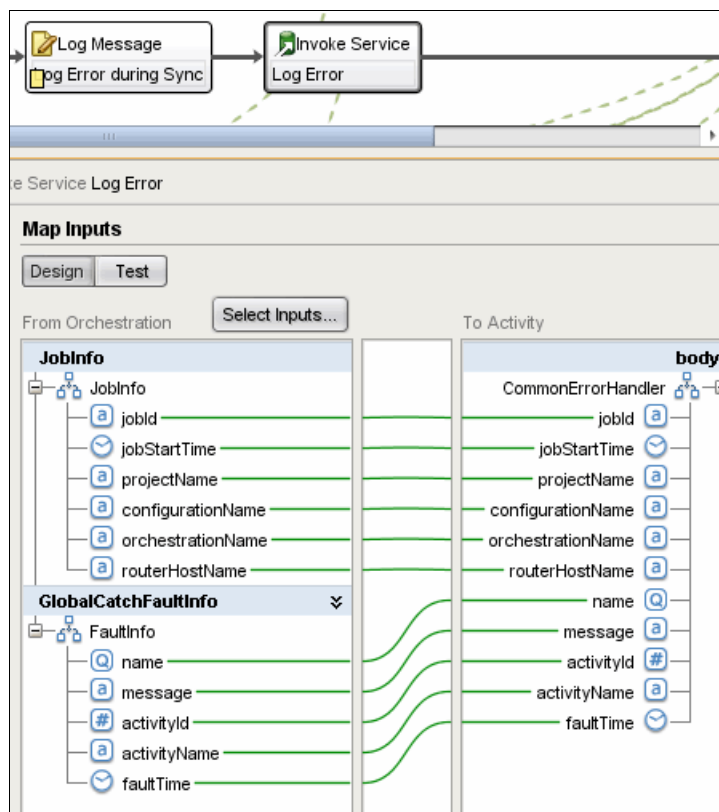

Figure 10-68 Configure Common Error Handler
- Compare the orchestration with that shown in Figure 10-68, and verify that all fields of the `CommonErrorHandler` variable are mapped.